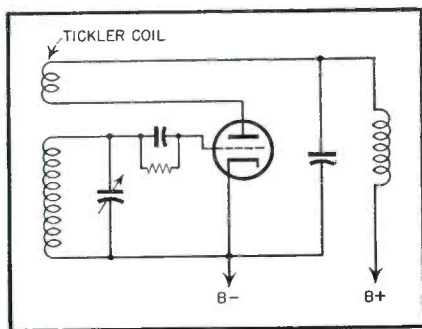

Fig. 1—Tickler feedback.
*in phase* for an increase of signal strength. (See Fig. 1). However, because of its unstable character this regenerative type of feedback is seldom intentional in amplifiers. More often in the servicing of amplifiers it is to be eliminated or at least held to a minimum. Therefore we list the following reasons which may cause its unintentional occurrence: